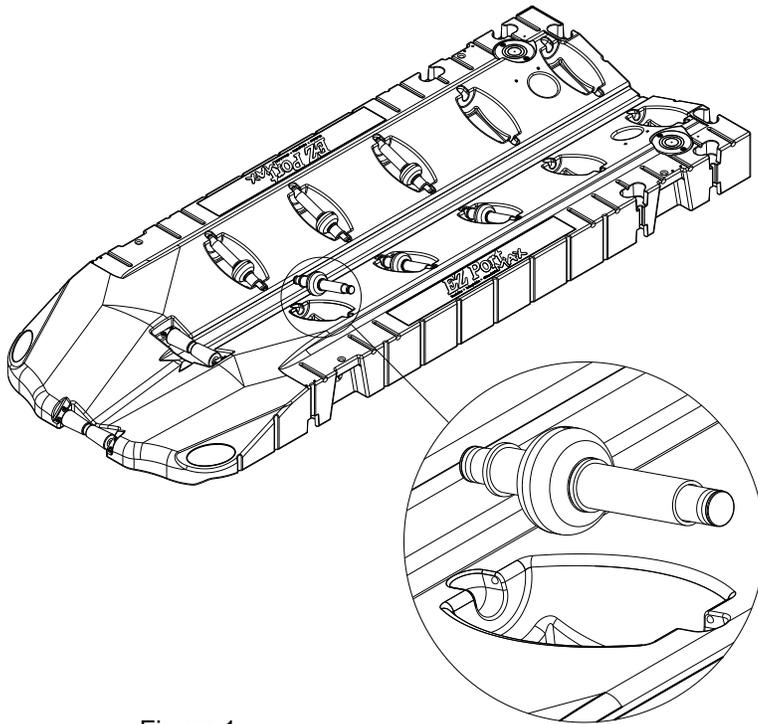

Figure 1
- Pry rollers out from top as shown in Figure 1. Use a large flat bladed screwdriver or pry bar.